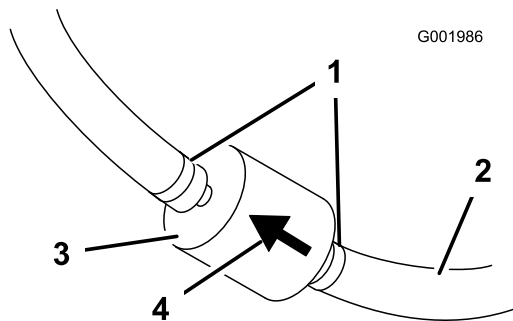

Figure 41
5. Squeeze the ends of the hose clamps together and slide them away from the filter (Figure 41).